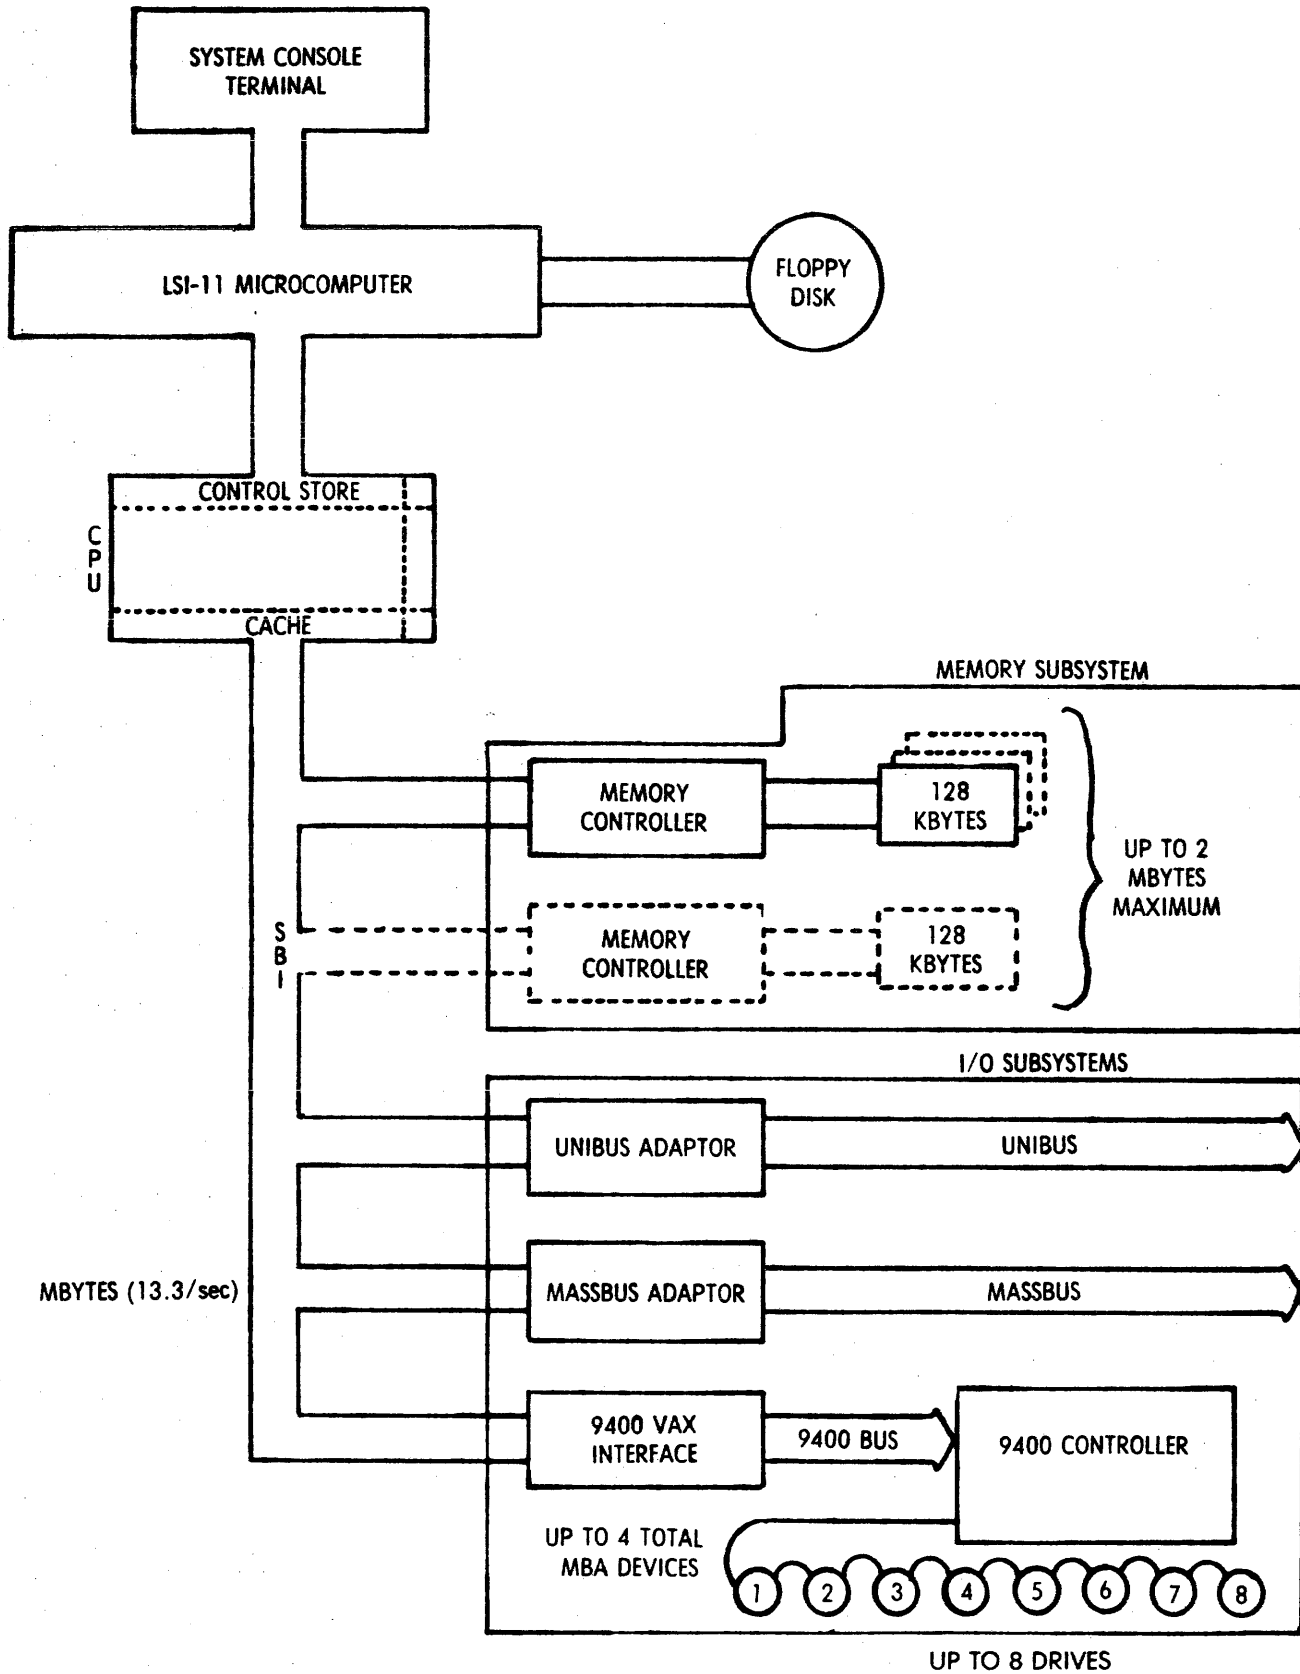

Figure 1-2. VAX-11/780 System Architecture
a. **DEC RH780.** The DEC VAX-11/780 Synchronous Bus Interconnect (SBI) is designed to connect the VAX-11/780 to high performance, large capacity memory subsystems and disk and tape I/O subsystems. The SBI has a data path width of 32 bits and a physical address space of 28 bits. Disk and tape I/O devices are connected to the SBI by means of the DEC RH780 Massbus Adapter (MBA). The DEC MBA is a device that interfaces between the SBI and the disk or tape controllers. (Refer to Figure 1-2, "VAX-11/780 System Architecture.") Massbus Adapters plug into four SBI backplane slots that can be provided in a VAX-11/780 system. Each DEC MBA can support up to eight disk or tape controllers. In a standard DEC configuration, each disk controller supports only one drive. The DEC MBA performs the following functions: